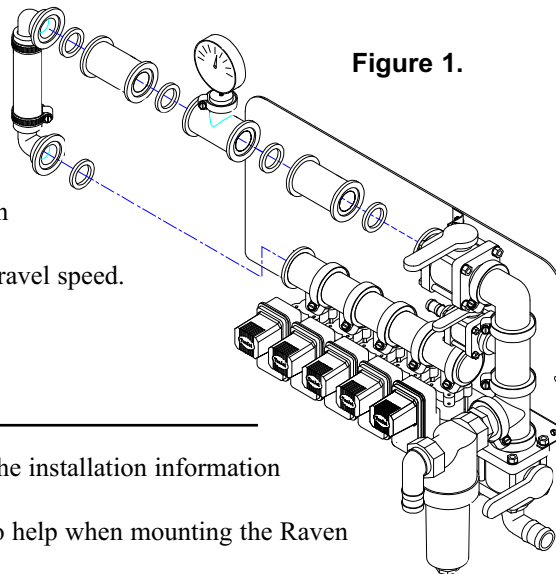

Figure 1.
1. Disassemble the plumbing as illustrated in Figure 1.